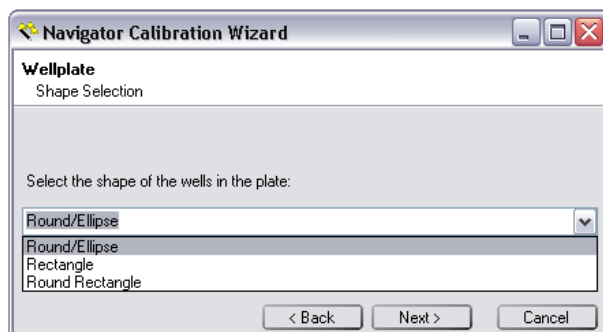

Figure 64: Selecting the appropriate well shape
- If Wellplate was the selected sample holder type, an additional step is needed before the calibrations start. In this step the user selects the shape of the wells (Figure 64). Depending on the selected well shape the appropriate calibration process is started by pressing “Next”.